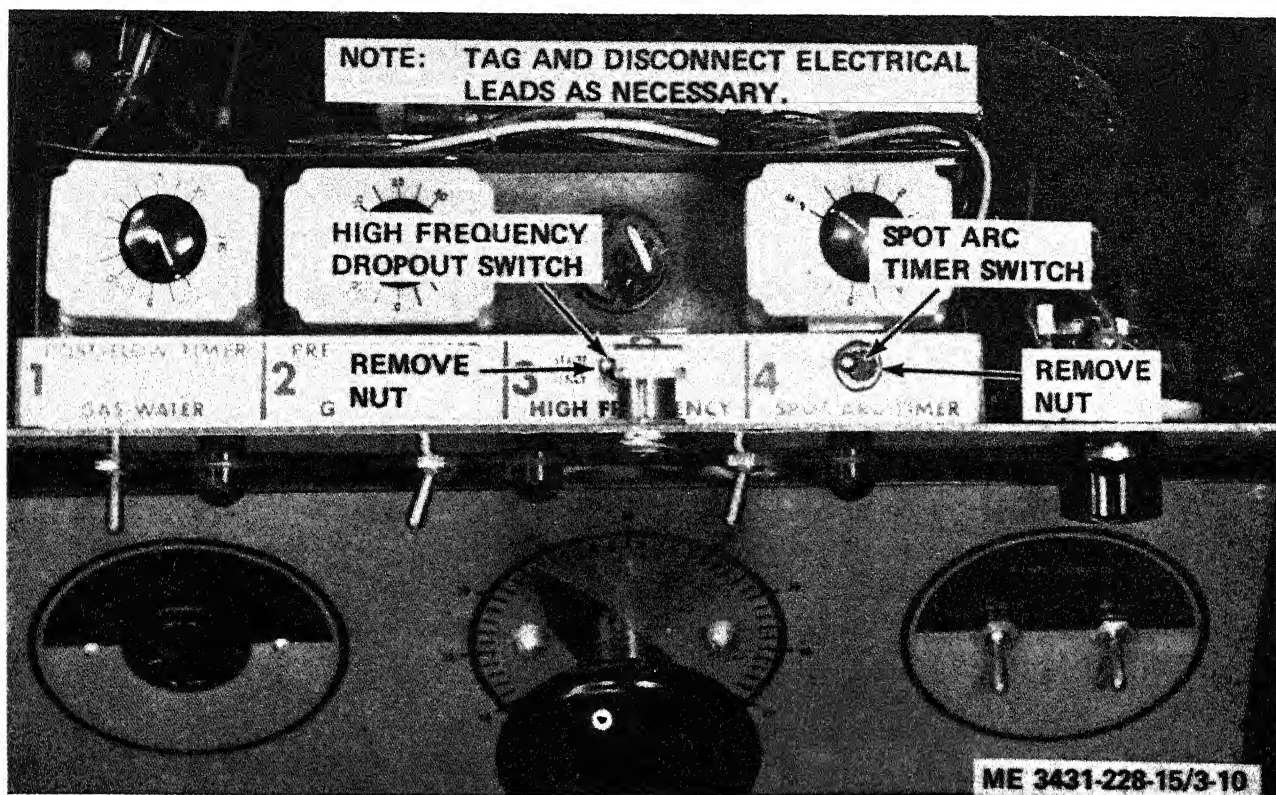

Figure 3-10. Spot arc and high frequency dropout switches, removal and installation.
(1) Disconnect ac power from the welding machine.
(2) Remove the timer and high frequency drawer (para 3-19).
(3) Refer to figure 3-10 and remove the switch.
(1) Refer to figure 3-10 and install the switches.
(2) Install the timer and high frequency drawer (para 3-19).